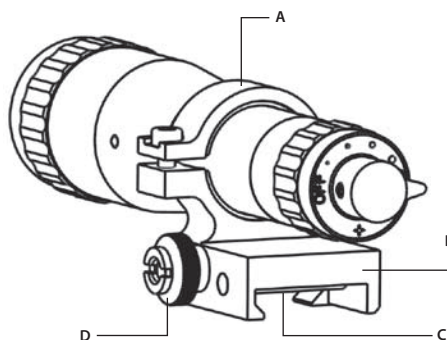

FIGURE 3-12. IR-850 ILLUMINATOR
IR850 (Figure 3-12) is delivered ready-assembled with a dedicated mount, to be installed on the top Weaver rail of the AIM or optional FSRs system. The mount clamp (A) has a spherical hinge that allows the IR850 to tilt.